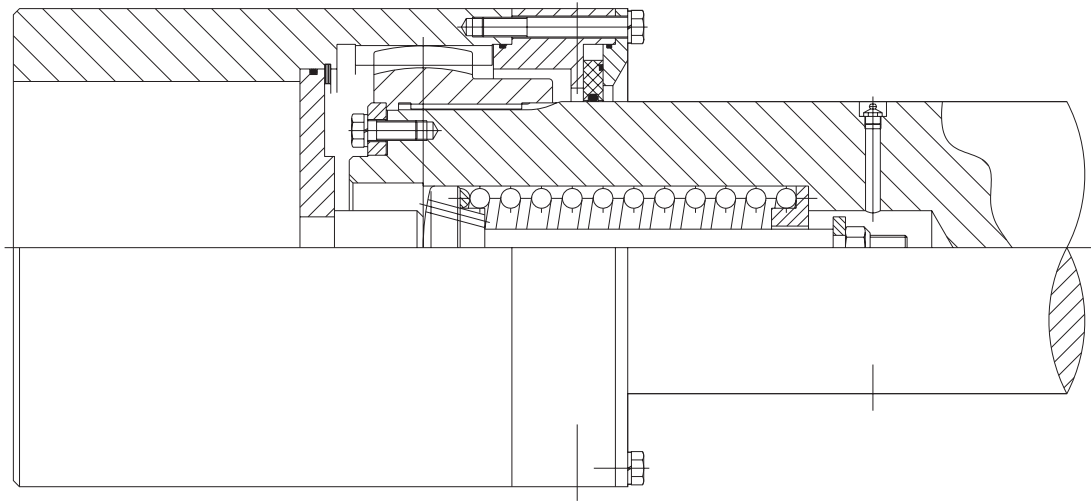

Figure 1 Shock absorber unit
1) A serious roll entry problem is caused by drooping roll sleeve when spindle support is located under the shaft. This can be overcome with the use of a spring loaded sleeve aligning device, fig 1, which holds the roll sleeve in line with the spindle shaft when the roll is removed, and maintains it aligned and ready for re-entry of new roll.
A serious roll entry problem is caused by drooping roll sleeve when spindle support is located under the shaft. This can be overcome with the use of a spring loaded sleeve aligning device (figure 1), which holds the roll sleeve in line with the spindle shaft when the roll is removed, and maintains it aligned and ready for